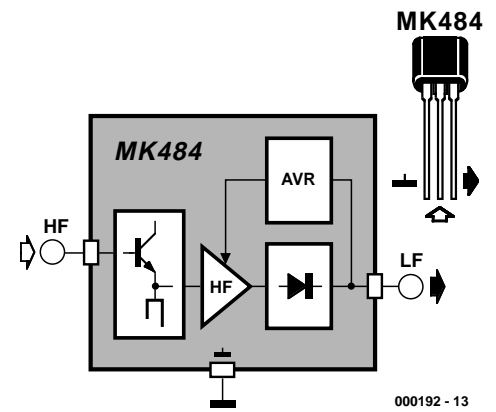

Figure 1. The MK484 contains nearly all the parts required to make a simple AM receiver.
Figure 1 represents the internal block diagram of the MK484. As can be seen, this IC contains a high-impedance input stage (shown here as an emitter follower), a (three-stage) RF amplifier, an AM detector and an Automatic Gain Control circuit (AGC), which adapts the amplification according to the level of the input signal. The input stage has an input impedance of 4 MΩ, which makes it possible to connect the MK484 directly to the tuned circuit without having to worry that it causes too much loading. The coil of the tuned circuit therefore doesn't need a tap, which simplifies the construction.
What isn't shown in Figure 1, but what is a very useful property of the MK484, is that it, like its illustrious predecessor, has been designed to work from a supply of 1.5 V (1.1 to 1.8 V), with a current consumption of only 0.3 mA. This makes it possible to power the receiver from a single penlight (AA) battery; even a button cell has enough capacity to power the MK484 for several hundred hours!